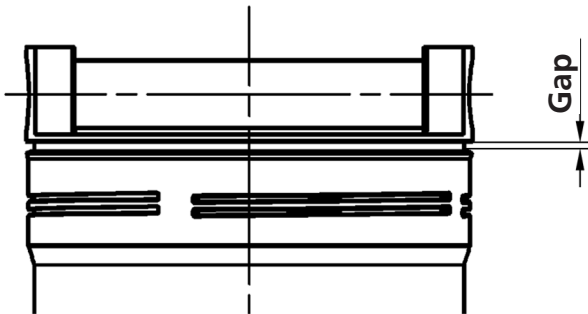

Fig. 3: Gap at the filter cover
- › Manually turn the cover until it stops; a gap between cover and housing may remain visible (see Figure 3).
A gap between cover and filter pipe may remain visible (see Chapter 8.1 "Before commissioning" / Fig. 3)